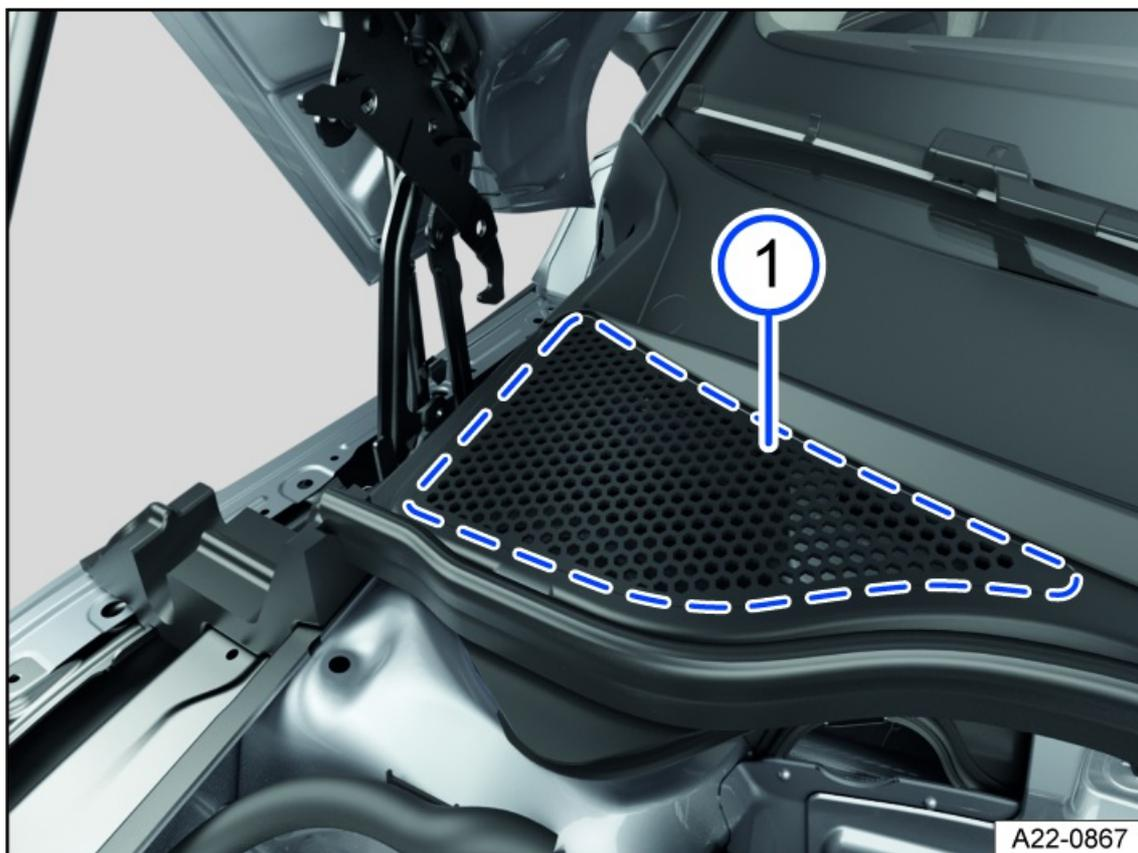

Fig. 192 Between the engine compartment and windshield: plenum chamber (general example).
- Have the area under the perforated cover regularly cleaned by an authorized Volkswagen dealer or authorized Volkswagen Service Facility qualified in this respect *fig. 192*. Volkswagen recommends contacting an authorized Volkswagen dealer or authorized Volkswagen Service Facility.
- Remove leaves or other loose objects with a vacuum or by hand *fig. 192*.